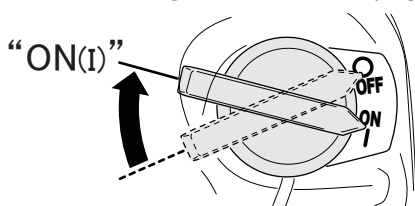

Fig.19
4. Turn on the engine switch on. (Fig.19)